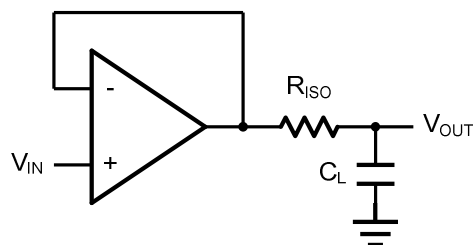
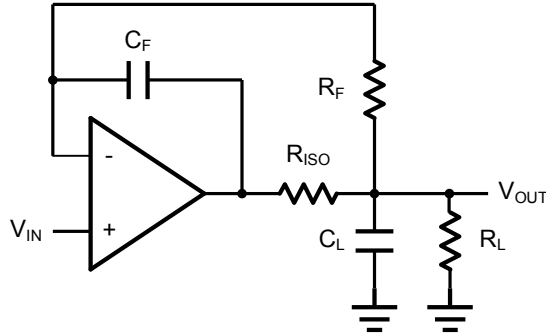

Figure 2. Indirectly Driving a Capacitive Load Using Isolation Resistor
Figure 3. Indirectly Driving a Capacitive Load with DC Accuracy
The OPAx317 family is optimized for bandwidth and speed, not for driving capacitive loads. Output capacitance will create a pole in the amplifier's feedback path, leading to excessive peaking and potential oscillation. If dealing with load capacitance is a requirement of the application, the two strategies to consider are (1) using a small resistor in series with the amplifier's output and the load capacitance and (2) reducing the bandwidth of the amplifier's feedback loop by increasing the overall noise gain. Figure 2. shows a unity gain follower using the series resistor strategy. The resistor isolates the output from the capacitance and, more importantly, creates a zero in the feedback path that compensates for the pole created by the output capacitance.
The circuit in Figure 3 is an improvement to the one in Figure 2.  $R_F$  provides the DC accuracy by feed-forward the  $V_{IN}$  to  $R_L$ .  $C_F$